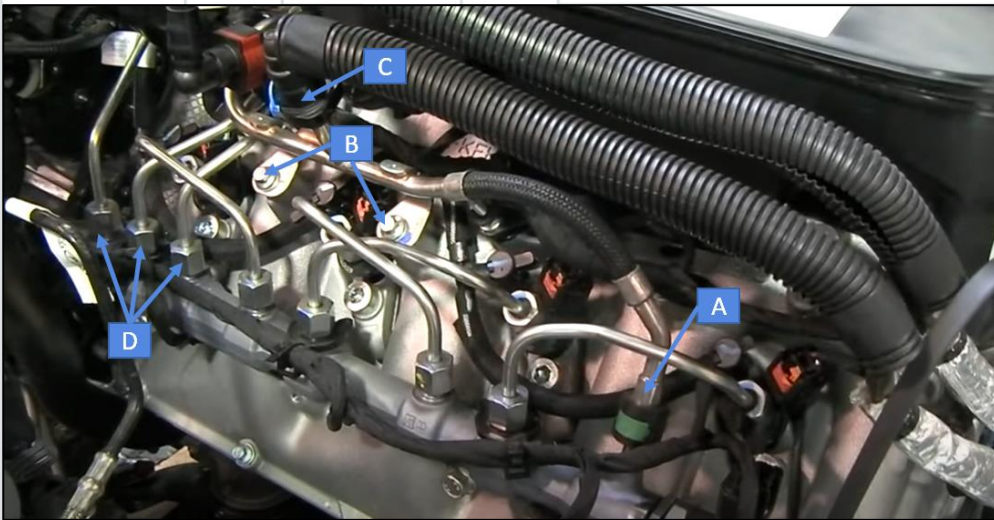
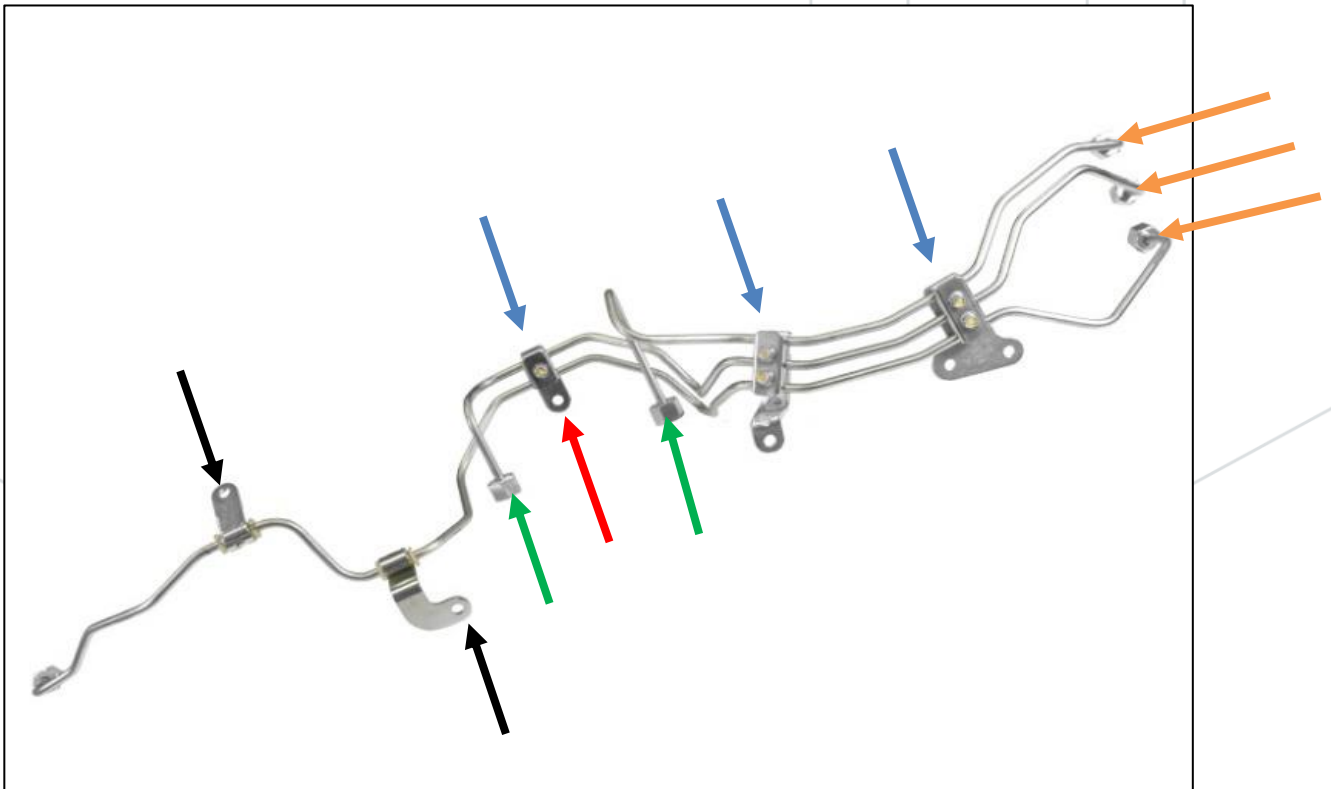

Figure 11: Fuel Line Connection Locations
Figure 19: High Pressure Line Assembly Nut and Bolt Locations
18. Referring to Figure 11 above, disconnect the low pressure return line from the fuel rail (Labeled as A).
19. Remove the one or two bolts that attach the fuel return line to the valve cover (Labeled as B in Figure 11).
- a. If a S&S DPK is installed, remove the return filter assembly & rotate the OEM quick-connect fitting (labeled as C in Figure 11) to the original OEM orientation, pointing downward. *(The S&S DPK return filter assembly can remain installed with the DCR pump).*
- The high-pressure line assembly to fuel rail connecting nuts are labeled as D in Figure 11 and colored in orange in Figure 19.
- The high-pressure line assembly to CP4 pump connecting nuts are labeled as C in Figure 11 and colored in green in Figure 19.
- Remove the five 8mm bolts holding the saddle brackets in place on the high-pressure line assembly colored in blue and the bolt for the rail-to-rail bracket colored in red in Figure 19.
- Remove the rail-to-rail crossover bolts below the EGR cooler colored in black in Figure 19 to allow the crossover line to be flexed towards the turbo compressor inlet.
**11. Referring to Figures 19, 25, and 30 (labeled as D), install the new high-pressure lines included in the kit.**